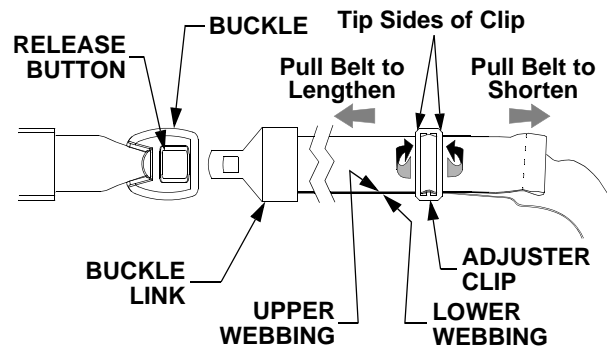

Figure 25
- To lengthen the belt, hold the ends of the adjuster clip and tip upward the side of the clip toward the buckle link. See Figure 25.
- While holding the clip, pull the upper webbing of the belt through the clip toward the buckle link. See Figure 25.